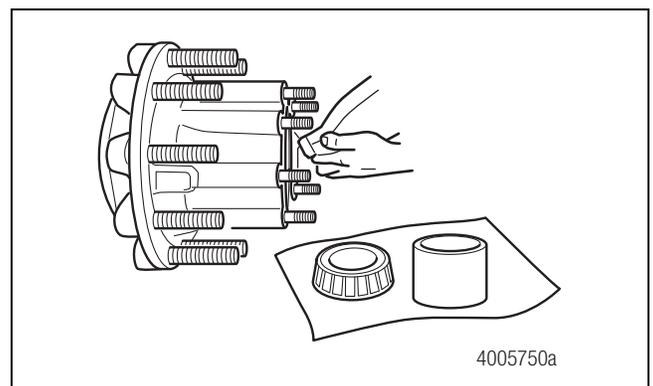

Figure 5.5
1. For drive hub installation only, place the hub horizontally and remove the outer cone and spacer. Fill the oil reservoir with as much oil as possible through the end of the hub with the axle flange studs. Install the spacer and outer cone into the hub. Use only lubricant approved by the component manufacturer. Figure 5.5.